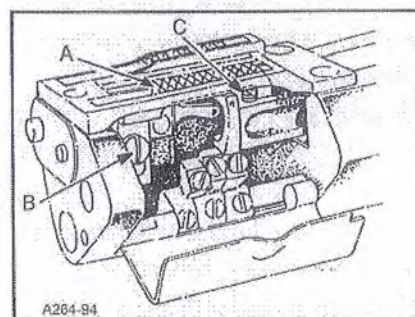

FIG. 11
Assemble the main feed dog and throat plate. Main feed dog (A, Fig. 11) at its highest position, should be set to project above the throat plate, the depth of its teeth. The feed dog mounting screw (B) and front support screw (C) should be set to maintain this setting.